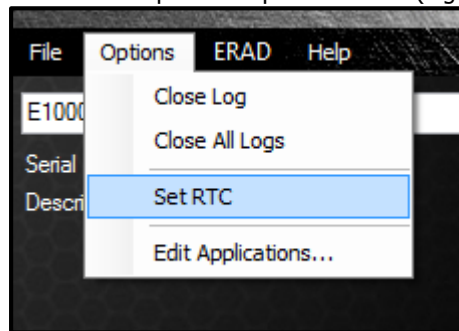

Figure 6.3-1: Set RTC from Options Menu
2. Select "Set RTC" from the Options drop down menu (Figure 6.3-1).